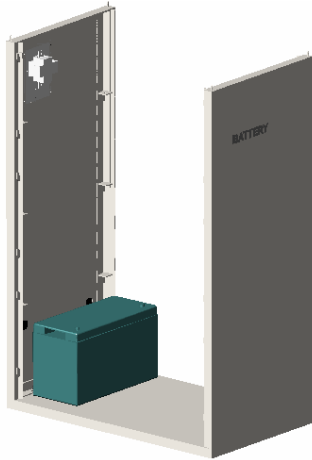
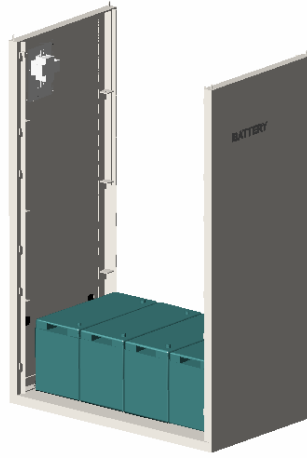

Fig. 7
Fig. 8
Step 3. According to the provided wiring diagram and list, put the battery onto bottom plate of the cabinet, then wiring with the wire end locked on battery pole in Fig. 7, Fig. 8.